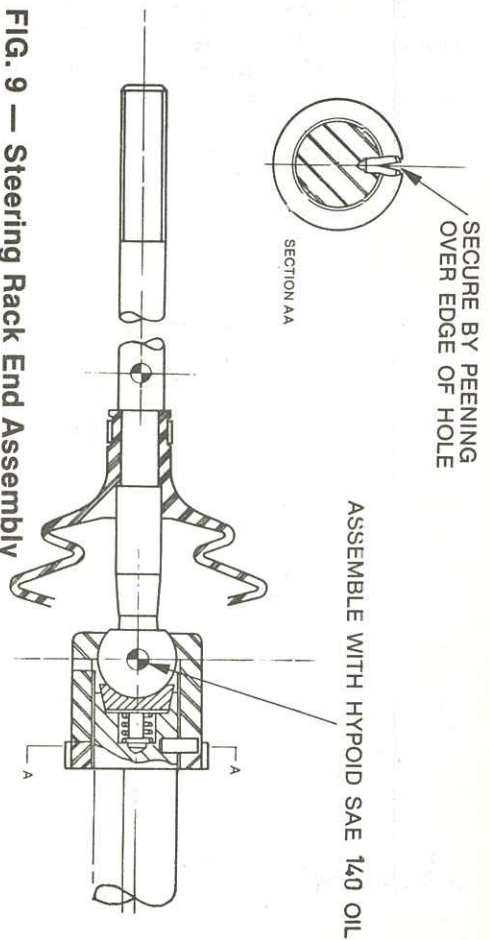

FIG. 9 — Steering Rack End Assembly
13. Insert the retaining pin and tap it into position. Peen the end of the hole to secure the adjustment. (Fig. 9.)